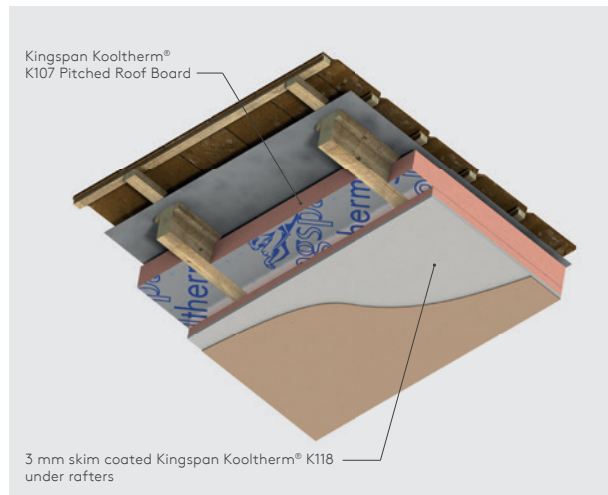

Figure 8 - Mechanically Fixed to Timber Rafters with Kingspan Kooltherm® K107 Pitched Roof Board Between Rafters
- Sheets of Kingspan Kooltherm® K118 may be used to line ceilings (see Figure 8).